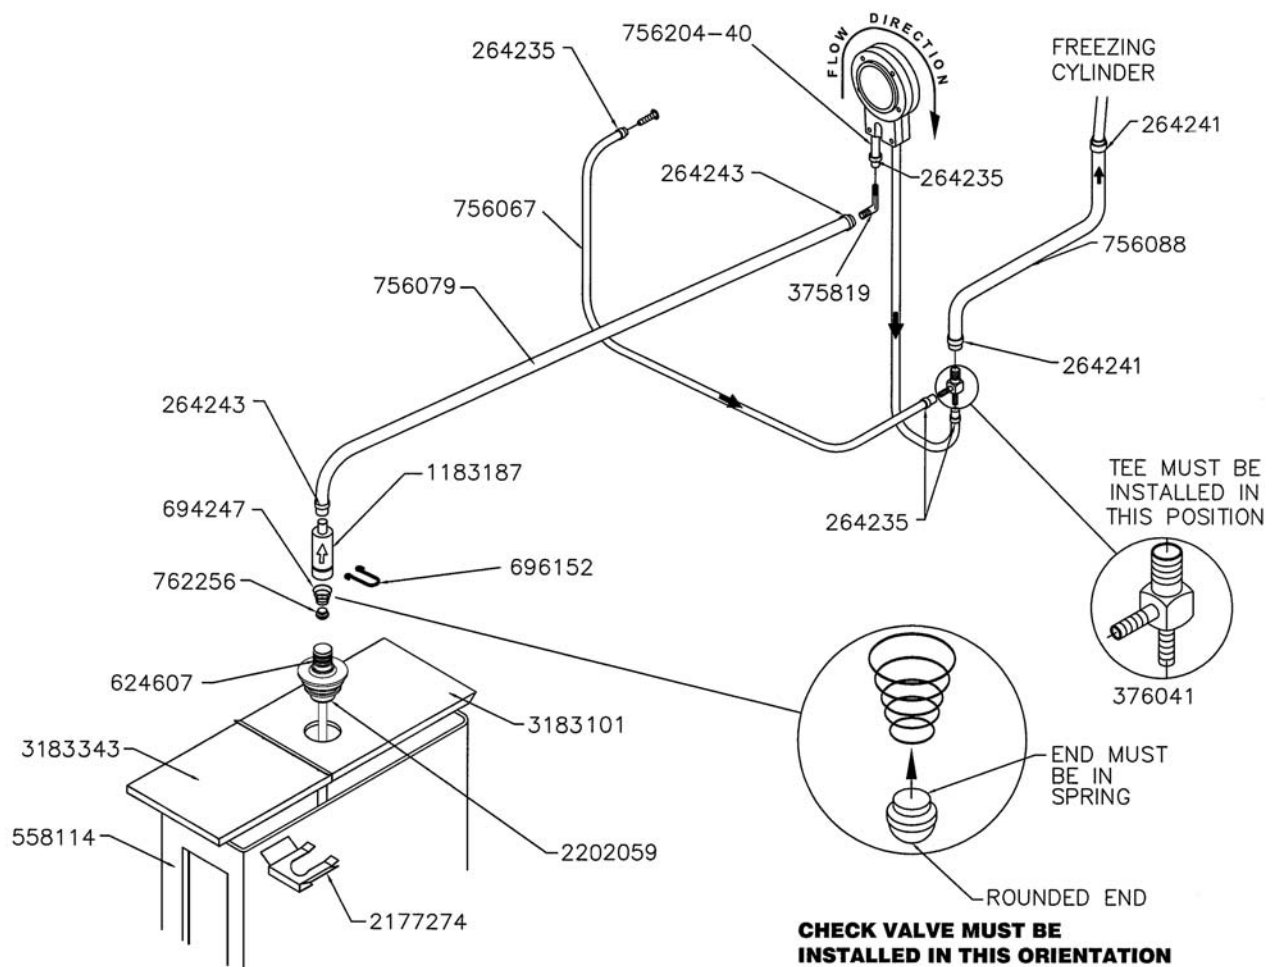

Figure 2-4 Mix Pump Connections for Standard Mix Container
10. Connect free end of mix pump hose to 3-way Tee as shown in Figure 2-4. When all connections are complete the 3- way Tee must be lower than the black pump housing.
1. Connect a 2" (5cm) length of 3/8" (9,5mm) ID plastic food grade tubing to the mix pickup assembly. Secure with hose clamps. Then place assembly through hole in cover and install retaining clip (see Figure 2-4 and 2-5).